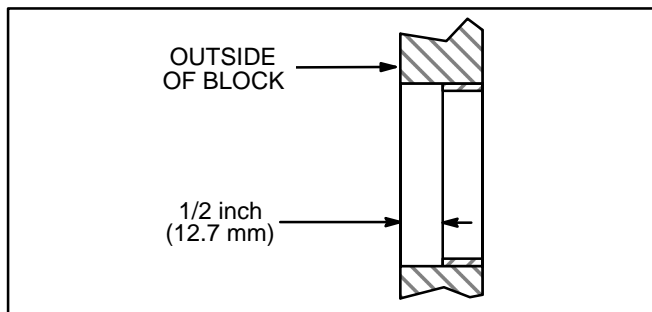

FIGURE 92. REAR CAMSHAFT BEARING
3. Press the rear bearing in so that it is positioned 1/2 inch (12.7 mm) from the outside edge of the bore. There is no oil hole in the rear bore with which to line up the hole in the bearing (Figure 92).